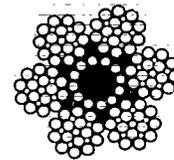

Figure 7-46. Armoured Core
**Armoured Core** (Figure 7-46) is made of a layer of steel wires laid around a fibre centre. It